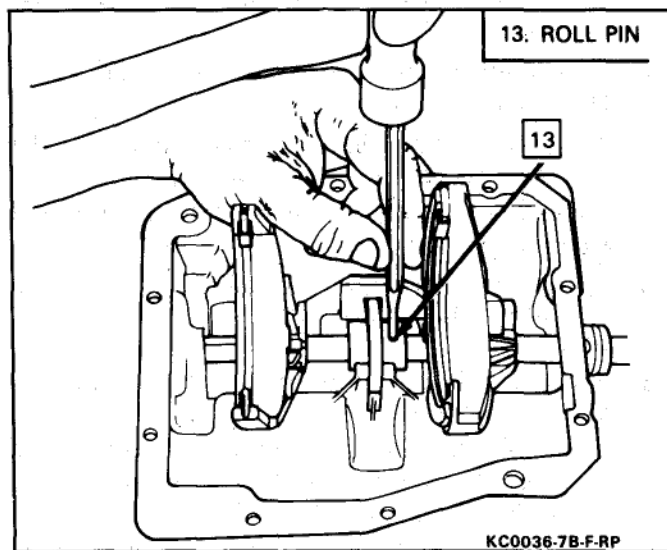

Figure 31 Removing Selector Arm Roll Pin
1. Selector arm roll pin using a pin punch and hammer (Figure 31).